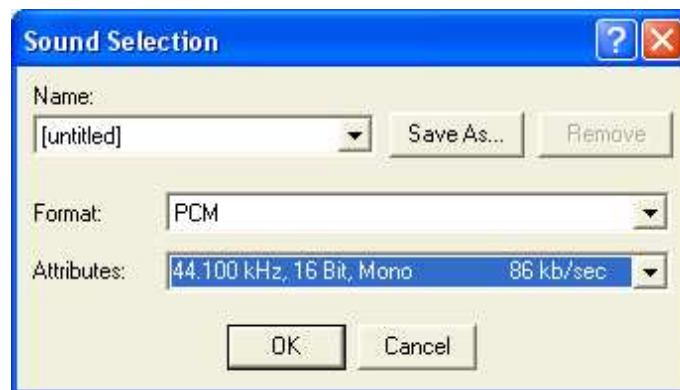

Figure 8. GUI Window: Sound Selection
- (3) Click on the *Convert Now...* button in the Properties for Sound window, to open another window for *Sound Selection*, as shown in Figure 8.
- (4) For mono audio ADC devices, such as TSC2100 or AIC28, set the Attributes to: 44.100 kHz, 16 bit, Mono, as shown in Figure 8. For stereo audio ADC devices, such as TSC2301, set the Attributes to: 44.100 kHz, 16 bit, Stereo.
- (5) Click on the OK button to close the Sound Selection window.
- (6) Click on the OK button again to close the Properties for Sound window.